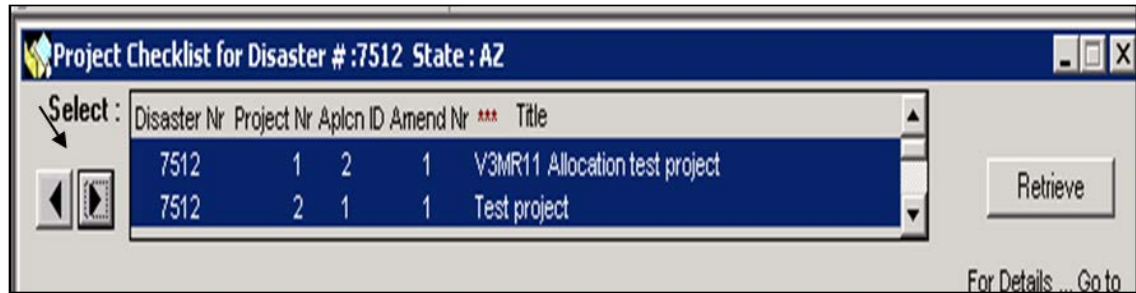

Figure 11-28: Scroll Arrows for Navigating Between Projects
8. Click the RETRIEVE button. The system retrieves the checklist for each of the selected projects. Scroll arrows are displayed on the top left part of the screen to allow you to scroll to each project checklist (Figure 11-28).